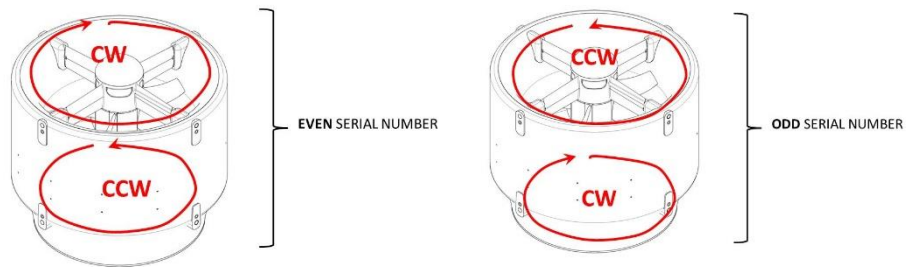

Figure 9 : CW or CCW in function of serial number
- Connect the ESCs RC plug (“E” plug) to flight controller in the case where both stages are managed together (cf.fig.9)